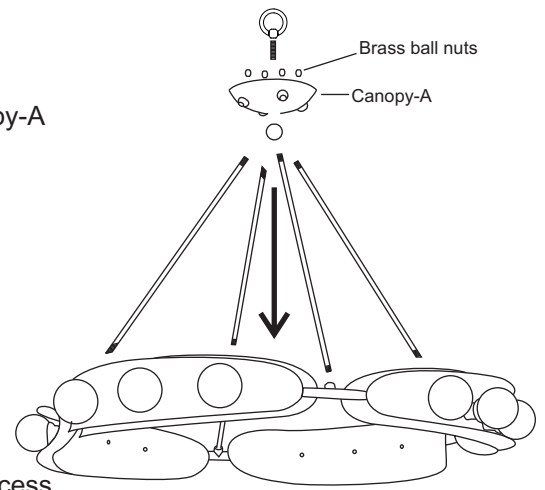
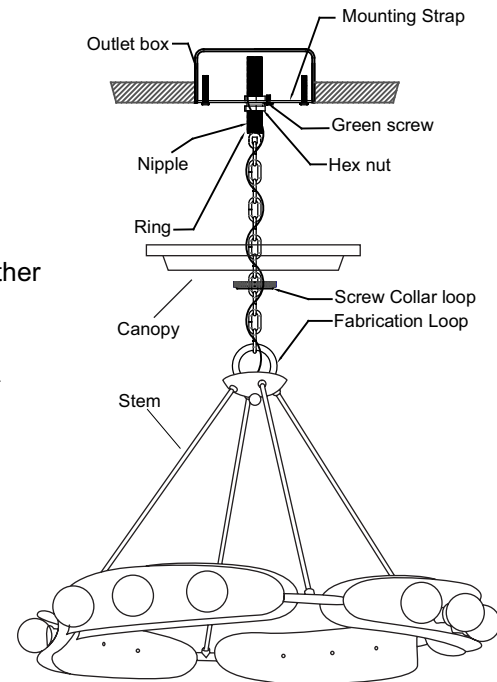

FIGURE-2
FIGURE-3
- Assemble the fixture by threading the four stems into the fixture and to canopy-A with the help of brass ball nuts provided. See figure-2.
- Open the end links of the chain and attach the chain to the screw collar loop. Insert the lead wire to the stem then thread in the stem into the frame. See Figure-2. Hang the fixture on the chain at the desired height. Remove the excess chain close all links. Unscrew the threaded ring from the screw collar loop. Allow the ring and canopy to slide down the chain to the top of the fixture. See Figure-3.